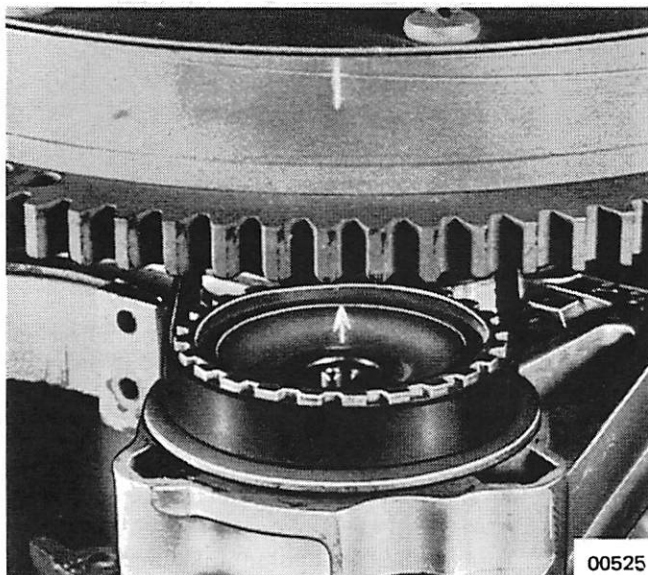

Figure 2. Timing Marks on Flywheel and Pulley
1. Rotate flywheel until timing mark (a straight line stamped on upper surface) is aligned with arrow on pulley (not plate). (Figure 2)